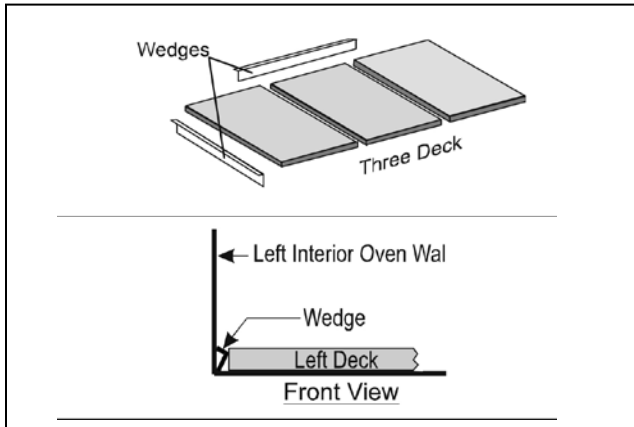

Figure 8
- Use wedges in the back and on the sides of the deck if the decks are loose. The three decks should be tight against each other with no gap between them (See Fig. 8).